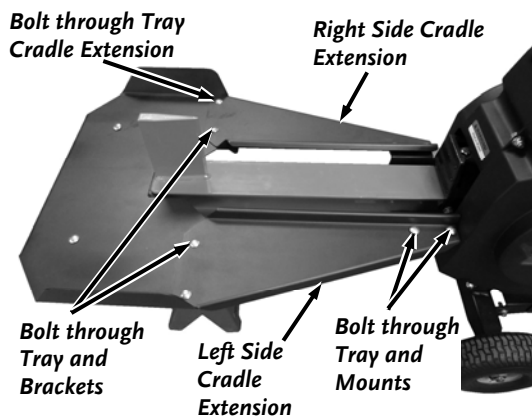

Figure 6
5. Position the right and left side Cradle Extensions and secure to the Tray and Mounts with eight 3/8-16 X 1" Carriage Bolts and 3/8-16 Flanged Locknuts by hand but do not tighten (**Figure 6**). Ensure that the two forward inner Bolts go through the Cradle Extension, Tray and Support Brackets.